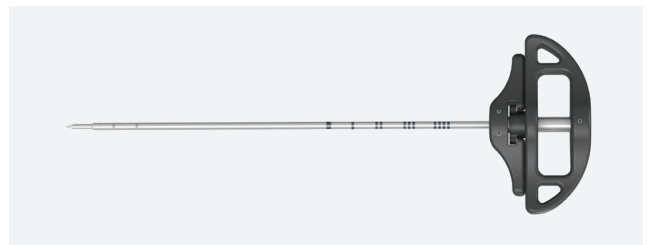

Figure 1
- Insert the pedicle targeting needle (Figure 1) at the lateral border of the pedicle. Using a mallet, advance the needle slightly to dock it into the bone and stabilize. Reference a lateral fluoroscopic image to confirm that the cephalad/caudal trajectory matches the pedicular anatomy.